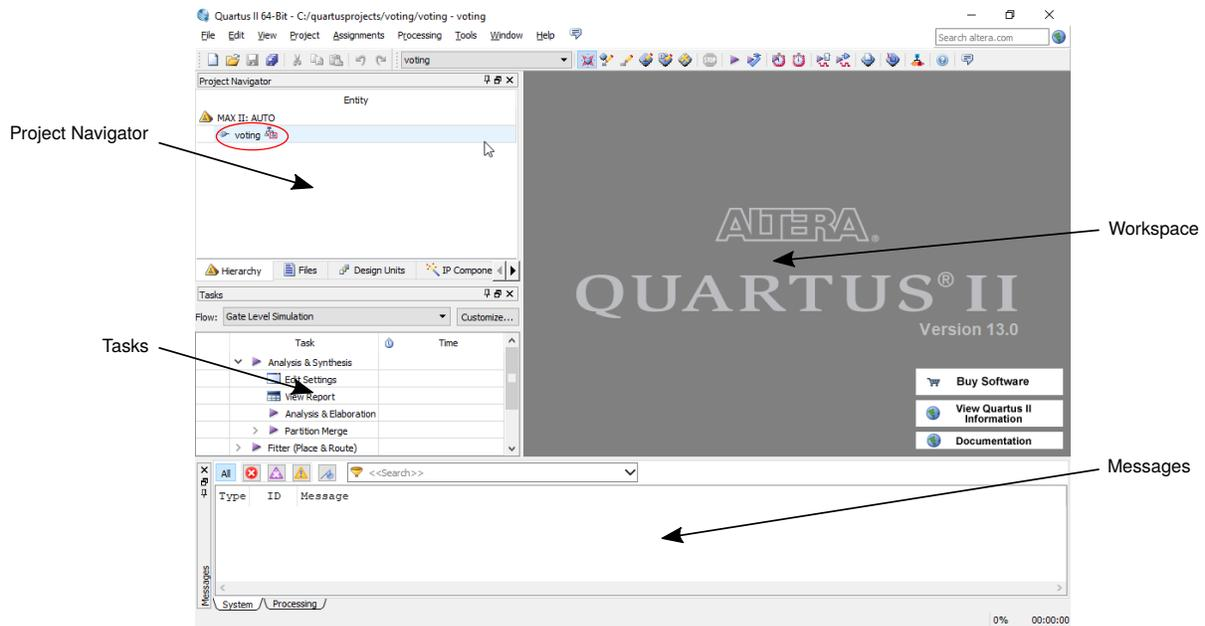

Figure 8. Quartus layout.
4. Click **Finish**. Notice the voting entity as shown in Figure 8.